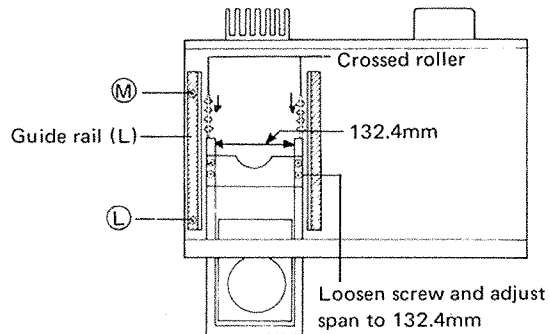

Fig. 8
**4-2 How to place CROSSED ROLLERS. (Fig. 8)**
- (1) Slide the CROSSED ROLLER in the right side V-shape guide as indicated arrow. (Be careful as roller easily becomes loose.)
- (2) Slide the CROSSED ROLLER in the left side.
- (3) Pre-fix screw (M) at the rear of the GUIDE RAIL (L). After adjusting the play of the LOADING TRAY, tighten screws (L) and (M)